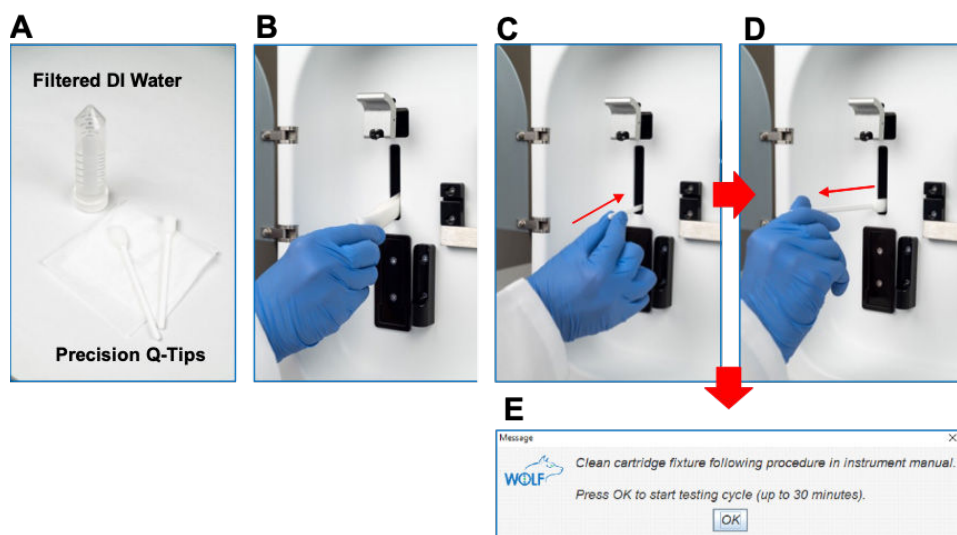

Figure 75. Cartridge fixture cleaning process.
2. Clean the calibration detectors using a precision swab wetted with filtered, distilled water (Fig. 75 A).
3. Insert the tip and rub gently the bottom left and right fixture walls. It is critical that all the sorting buffer is cleaned from the detectors to avoid salt precipitates that could lead to errors in detection (Fig. 75 B-D).
6. Once the cartridge fixture is clean, the user can start a testing cycle. A system check will run every 3 minutes and advise the user when the system is ready (Fig. 75 E).